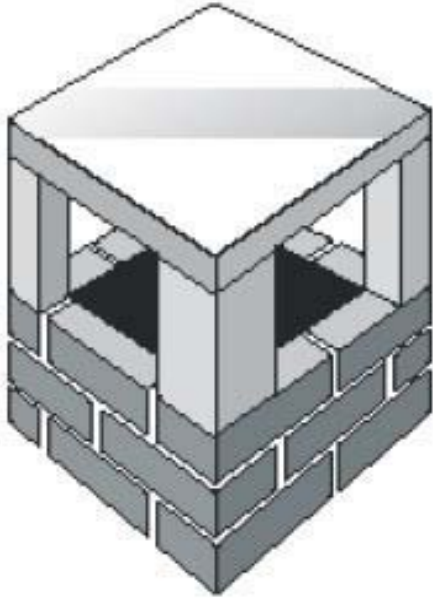
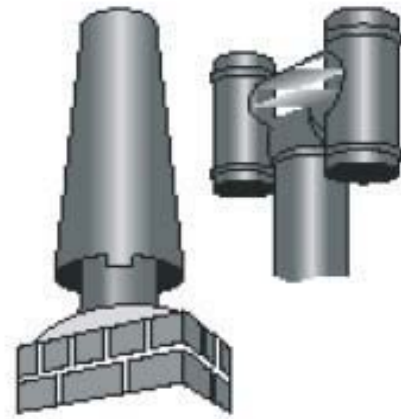

Figure 10
Figure 18
REMEDY: If the trouble is recurrent, change the fuel for a fuel with lower tar content. The variant shown in Fig.10, which is intended for protecting from rain and wind, can also replace the used square or circular termination. The combined area of the four openings should not exceed twice the area of the flue.
- fitting chimney draught-inducing cowls to increase up-draught, as the indicated ones on Fig. 18;
REMEDY: Try to raise the chimney terminal out of the turbulent zone. If this is impossible, protect it in one of the ways indicated in Fig. 10 or Fig. 18.